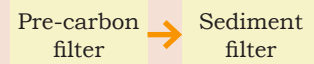

Fig. 5.43
3. Next, connect the inlet of pre-carbon filter to the outlet of sediment filter as shown in Fig. 5.43.